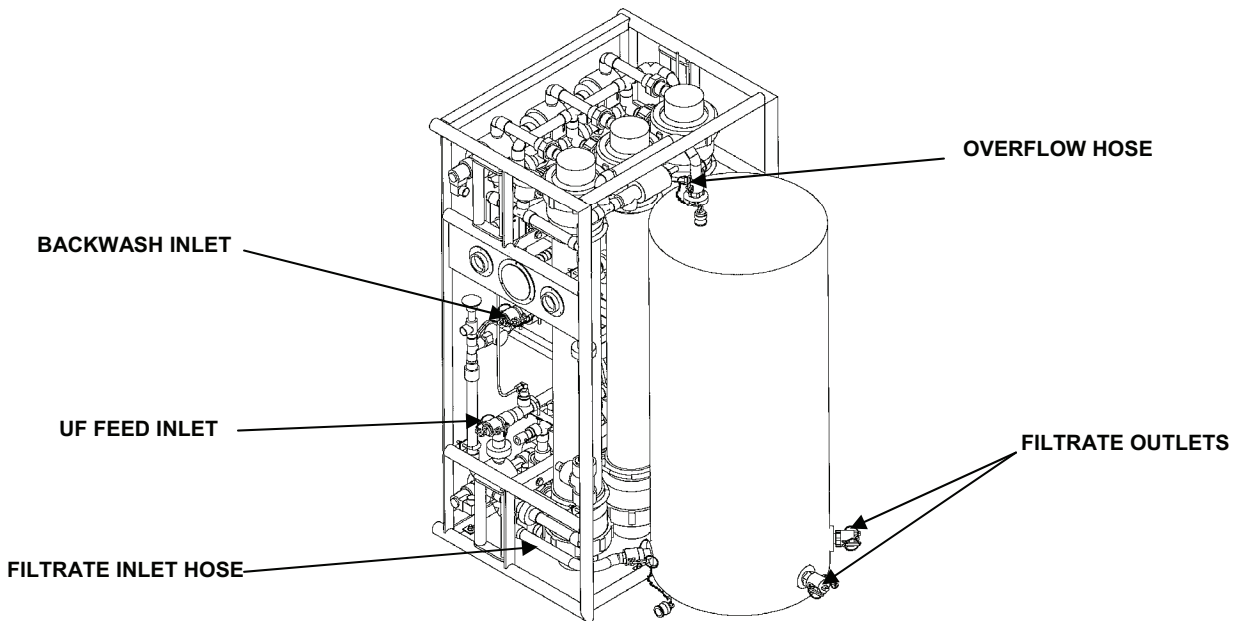

Figure 3. Filtrate Tank Connections.
- Disconnect the backwash pump suction hose from the filtrate tank and cap tank outlet. See Figure 3.